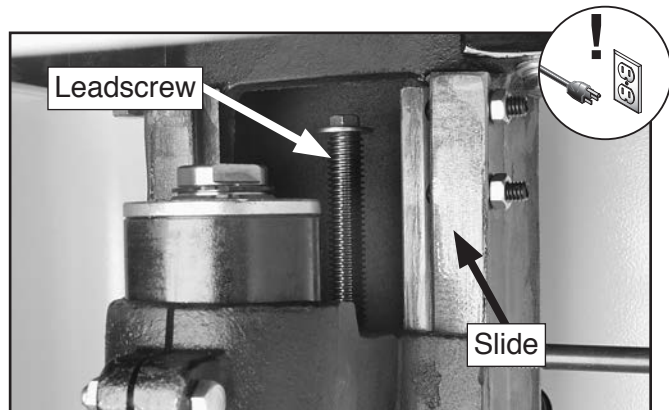

Figure 64. Spindle slide and leadscrew.
3. Use the spindle height handwheel to lower the spindle all the way, then access the elevation assembly through the rear of the cabinet (see **Figure 64**).